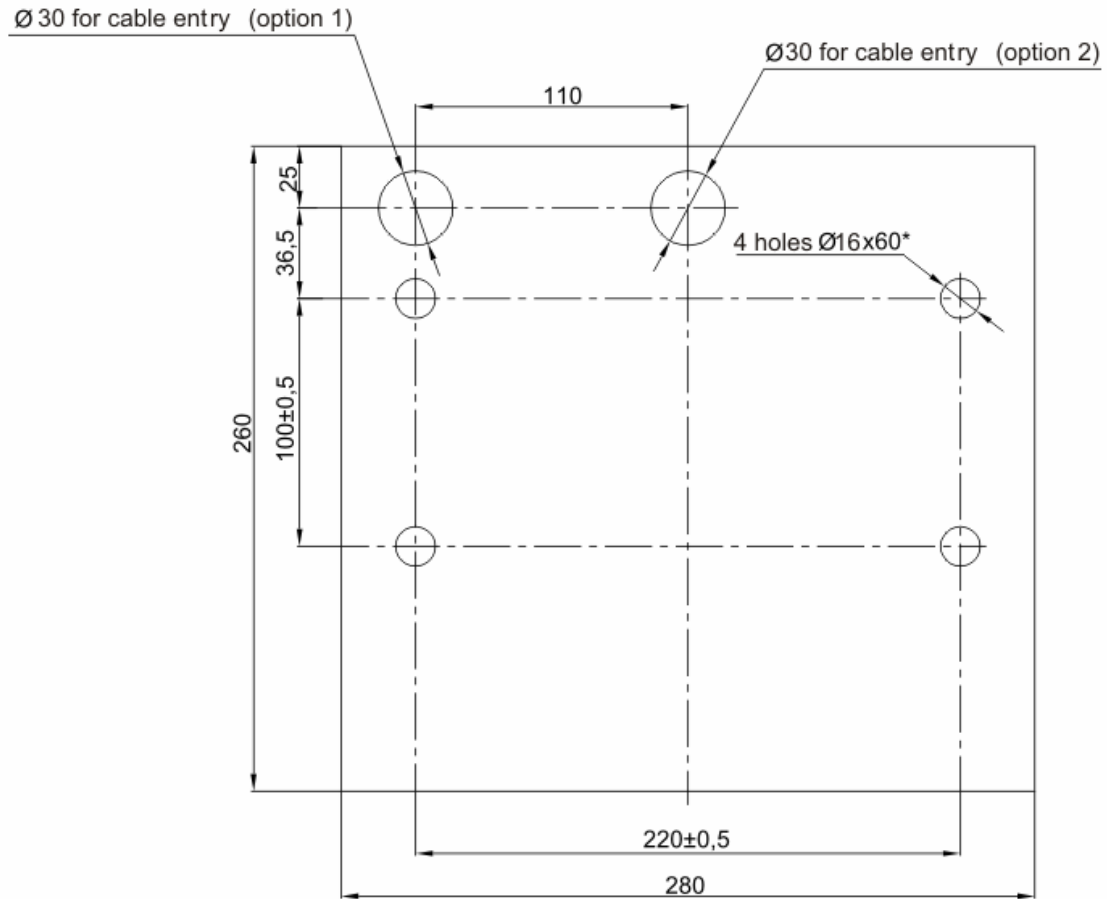
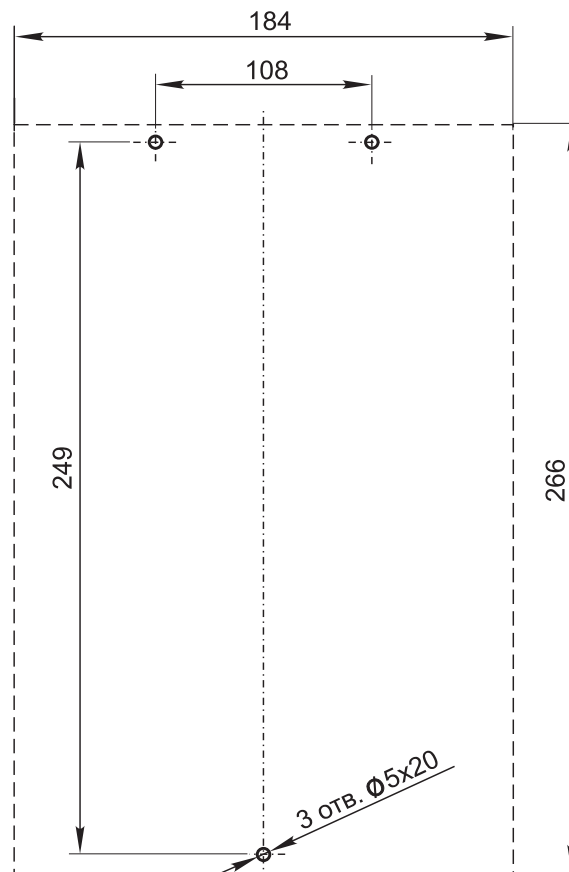

Fig. 5. Floor anchor position and cable entries for turnstile housing installation
Fig. 6 Wall dowel position for the CU installation
- to mark the mounting holes according to Fig. 5 and Fig. 6;
9.3.2. Make the holes for anchor bolt sleeves (16) (Fig. 1). Mark out the mounting holes in the floor for turnstile housing (1) as shown in Fig. 5, and for the wall mount for the CU (3) as shown in Fig. 6.
9.3.3. Insert anchor bolt sleeves into the holes so that they do not stick out above the floor surface. Set up the housing and fix it with the bolts (16). Put the plugs (5) in their places.
If you lay the turnstile cable (7) under the floor surface, make a hole for the turnstile cable (7) and for the power supply cable (19) of the heating system with thermocontrol (option 1 or 2 in Fig. 5) and prepare cable raceways. Fix the housing (1) (Fig. 1) after fitting the cables (7) and (19).
9.3.4. Remove the cover from the hub (11) of the turnstile housing (1), unscrewing the central bolt. Unscrew the fixing bolt (18) on the barrier arm (2). Fit the barrier arm into the mounting hole on the hub (11) and fasten the barrier arm (2) with the bolt (18). Put a spring washer under the bolt head.